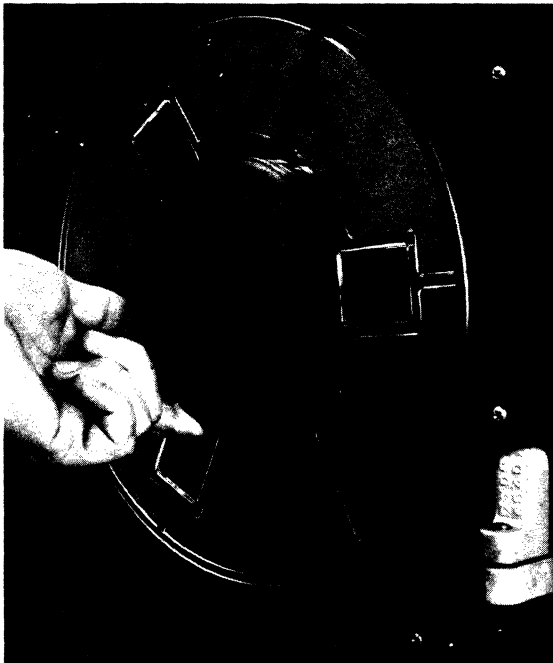

Figure 3-5. Tape Wrapping
- b. With your finger still securing the tape leader, turn the take-up reel clockwise (Figure 3-5) until the tape leader is smoothly wound beneath one layer of the tape. While turning the take-up reel, be sure to provide slack from the supply reel by turning it with your free hand.